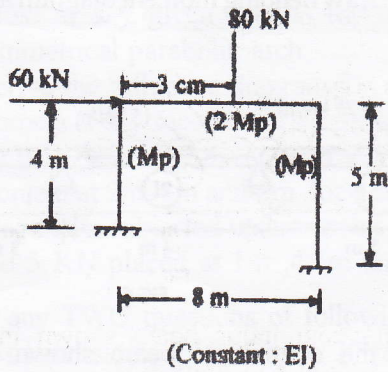

Fig. 9
- (b) Determine the plastic moment capacity  $M_p$  for the frame shown in fig 9 given below: